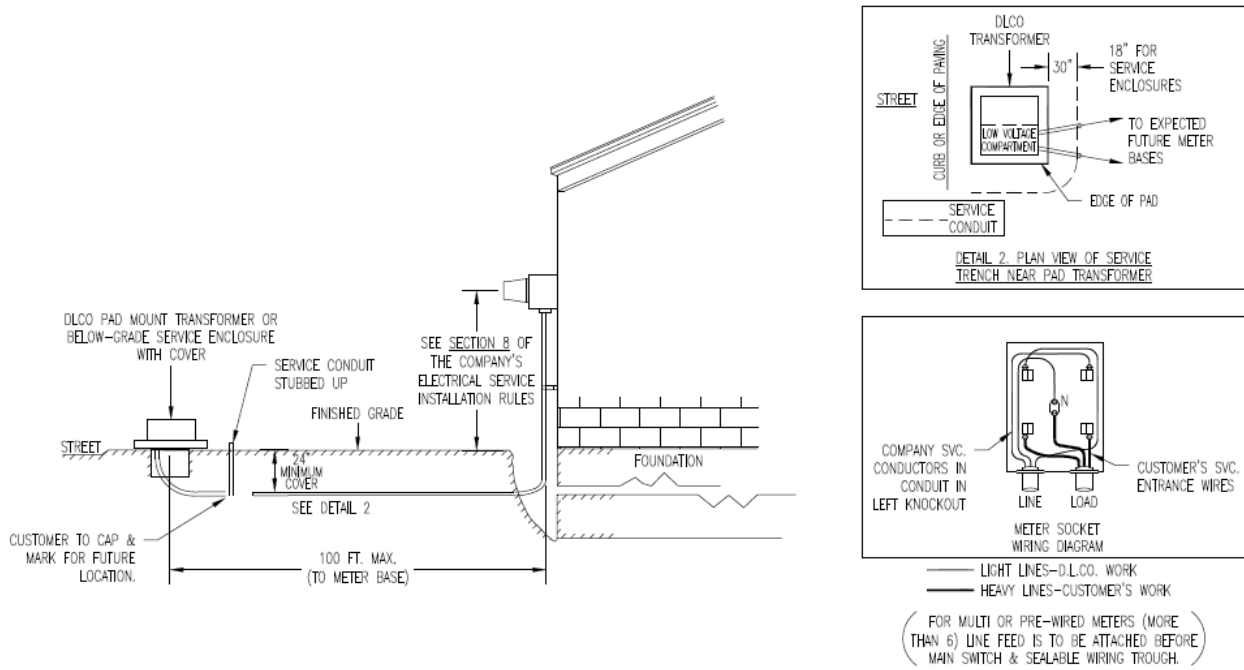

FIGURE 5.
- 4.2.3 Furnish, install, and maintain conduit from the meter base to the Company's service enclosure or transformer at the street. See Figure 5.
- 4.2.3.2. If a transformer or service enclosure is being installed in expectation of future services being run to presently empty lots, conduit must be installed from the transformer or service enclosure in the direction of each expected future meter base. Conduit must extend at least 18" beyond a service enclosure or 30" beyond a transformer. These measurements are taken from what will be the edge of the enclosure or pad at grade level. Conduit ends are to be capped to prevent dirt ingress. Location of Conduit ends are to be marked either by placing a straight section of conduit vertically (as shown in Figure 5) at the end of the conduit, or in lieu of capping underground, attaching a Sch. 80 bend extending above grade and capping that. If a bend is used to mark the conduit, it may be re-used later as the meter base riser.